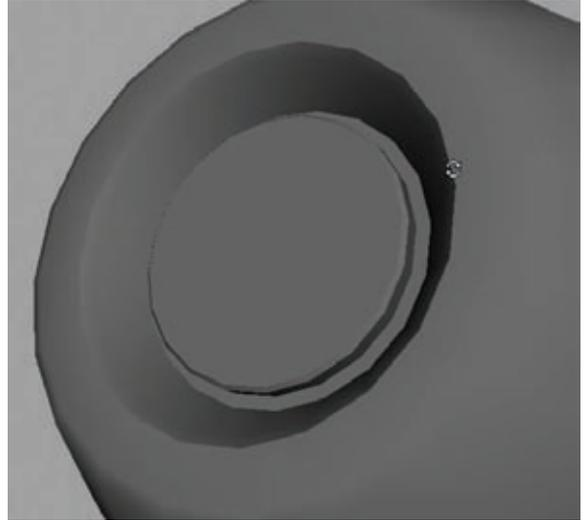

Figure 8.10
4. Select both cap faces again, if they aren't already selected. With a series of Extrudes and Bevels, create indentations on both ends of the capsule that look like the one in Figure 8.10—a rounded indentation with a small “shelf” raised inside. In a later step, you'll be adding a little window into the device on these surfaces.